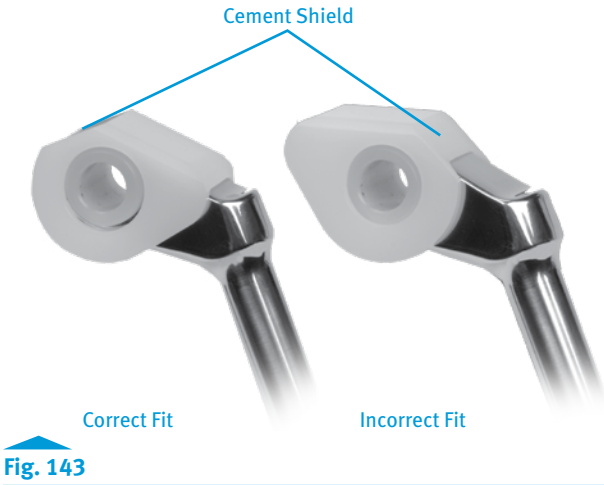

Fig. 143
- The holes in the polyethylene insert must match the bosses on the hinge pin bushing to ensure proper orientation (Fig. 143).